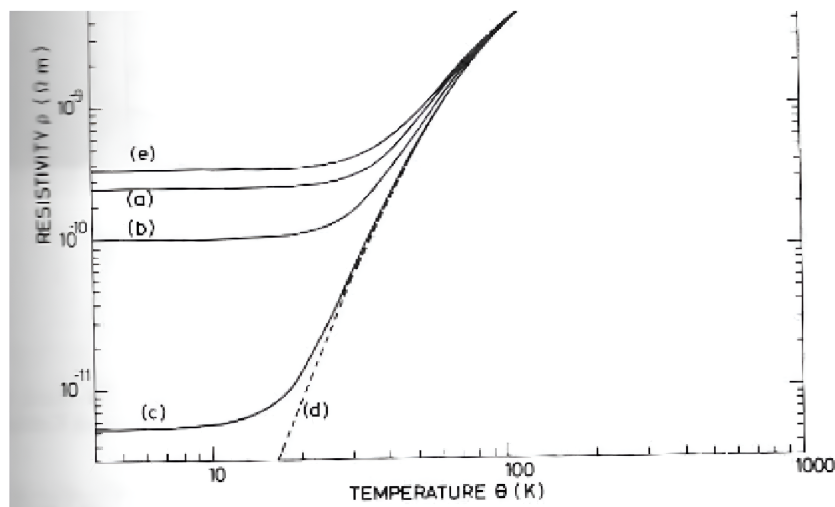

Figure 1: Variation of the resistivity of Copper as a function of temperature. The different curves represent various material treatments.
- c) Using the data on the curve of ρ versus T shown in Fig. 1, evaluate the power dissipation when the coil is cooled to 80 K (the boiling point of liquid nitrogen).